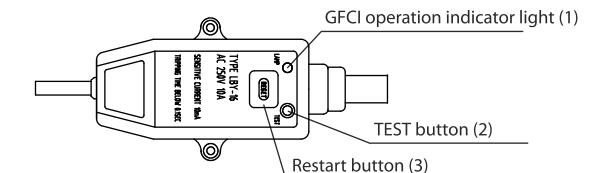

Fig. 11
**GFCI (Ground Fault Circuit Interrupter) (Fig. 11)**
1. Connect the cable to the mains, indicator (1) will light up.
2. Press button (2) for testing, voltage will be cut off, indicator (1) will light down and restart button (3) will go upwards.
3. Press button (3) to restart the appliance, voltage will be restored and indicator (1) will light up.